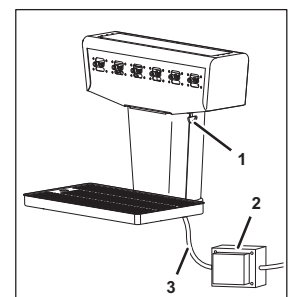

Fig. 2
1. Turn the key switch (Fig. 2/1) to position "0".
2. Disconnect the electrical cable (Fig. 2/3) (cable no. 220097434) on the transformer (Fig. 2/2) in the undercounter cooler.